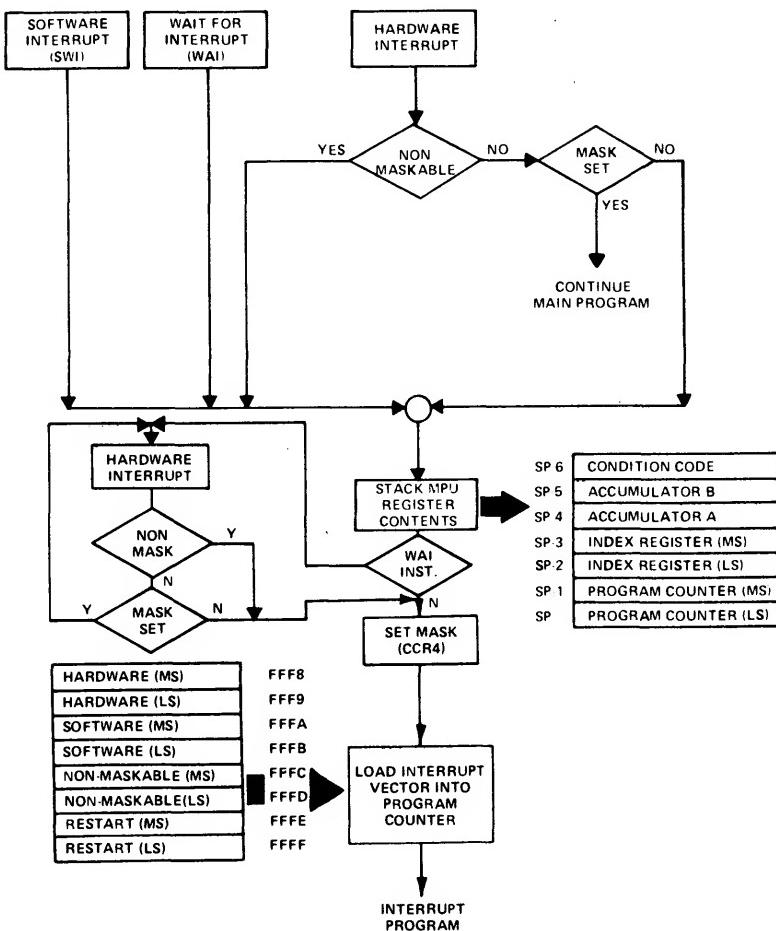

Fig. 9.6 Interrupt flow chart
2. *HALT (Pin 2)* When the input on this pin is in the high state ("1"), the MPU will fetch and execute instructions. When the HALT line goes low, the MPU will finish execution of the instruction it is processing before halting. When the MPU is in the halt mode, the Bus Available (BA) line will be high, the Valid Memory Address (VMA) line will be low, and the Read-/Write (R/W) line, the address bus, and the data bus will be in the high-impedance state. If an interrupt (\overline{IRQ} or \overline{NMI}) should occur while the MPU is in the halt state, it will be latched into the MPU until the latter is taken out of the halt mode, at which time it will service the interrupt. The \overline{HALT} line permits an external source to control program execution by executing one instruction at a time. This capability is particularly useful during program debugging. During normal operation of a system, this pin would be tied to +5 V.
4. *Interrupt Request Line (\overline{IRQ}) (Pin 4)* When the \overline{IRQ} line from the PIAs (or some other external device) goes low, the MPU will complete the instruction it is executing and then go into an interrupt sequence, providing the interrupt mask has not been previously set to inhibit interrupts. During the first step in this sequence, the contents of the index register, the program counter, the A and B accumulators, and the condition code register will be stored on the stack (in RAM) for later use. Next, the I bit in the condition code register will be set to a "1" so that no further interrupts may occur. The MPU will now load the contents of the highest ROM address minus 6 and the contents of the highest ROM address minus 7 into the program counter. This vectoring address will occur when the MPU puts the addresses FFF8 and FFF9 on the address bus. The contents of these locations contain the address of the program that is to service the interrupt by prescribing the action the MPU is to take because of the interrupt. At some point in the servicing program, an RTI instruction will be encountered that will cause the MPU and its internal registers to be restored to the condition they were in before the interrupt. See Fig. 9.6 for a detailed flowchart of the interrupt sequence.
6. *Nonmaskable Interrupt ($\overline{\text{NMI}}$) (Pin 6)* This input pin is similar to the $\overline{\text{IRQ}}$ input, except that the interrupt is *nonmaskable*. As with the $\overline{\text{IRQ}}$, the MPU will complete the instruction being executed before it recognizes the $\overline{\text{NMI}}$ interrupt. After the contents of the program counter, index register, A and B accumulators, and the condition code register have been stored on the stack (RAM) for later use, the I bit will be set to a "1". The contents of ROM locations FFFC and FFFD will next be loaded into the program counter. These locations contain the address of the program that services the nonmaskable interrupt. Again, when the MPU comes to an RTI instruction in the servicing program, it, along with its registers, will be restored to the condition it was in before the nonmaskable interrupt. See Fig. 9.6 for a detailed flowchart of the interrupt sequence.